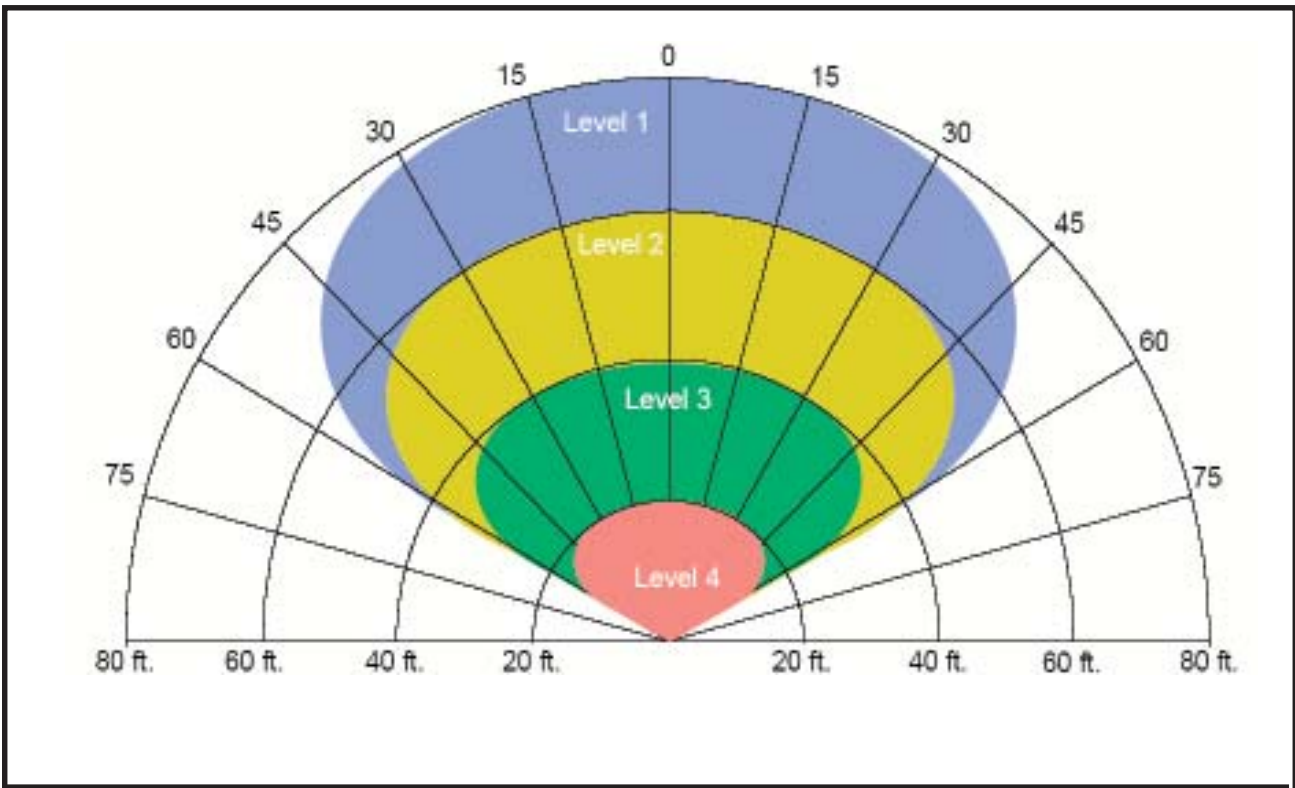

Figure 2-1: Model 3100 Series Field of View
2.2 Field-of-View (See Figure 2-1)